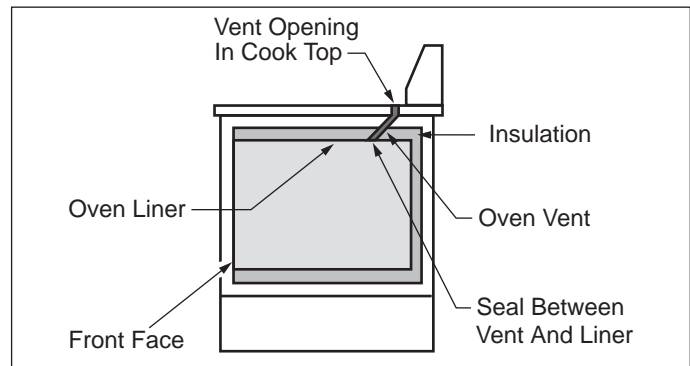

Figure 27
The burner consists of two parts, the burner base and the burner cap. The orifice is not adjustable and there are no adjustable air shutters. There is an individual spark electrode for each burner. (See Figure 27)
2. Check position of insulation around oven liner and vent to see if in proper location. (See Figure 27)